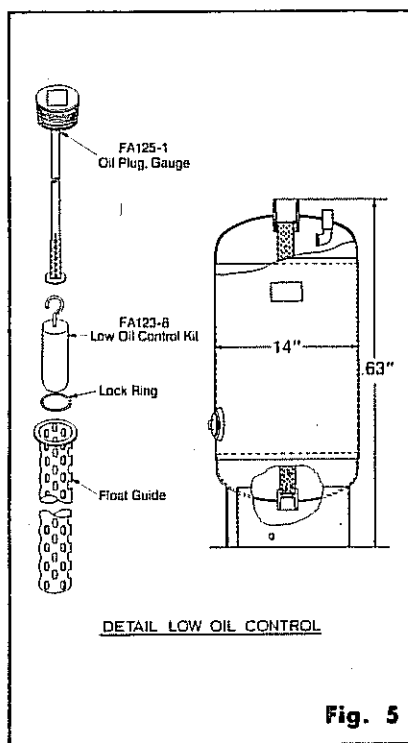

Fig. 5
4. Dig trench 12" deep between jack and valve location for air or oil line(s). In some localities pressured tanks must be installed above ground as illustrated in Fig. 5. Tank installation must meet local codes.
7. Above ground Tank : The 2" fill pipe is not required. Use piping procedure shown in Fig. 5.
NOTE: "H" series lift is equipped with Low Oil Control device. DO NOT insert float at this time, see Fig. 5.
19. "H" series: Install low oil control device per Fig. 5.